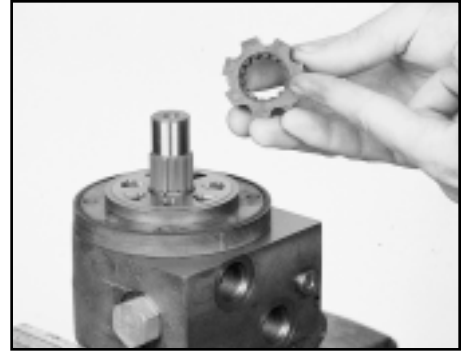

Figure A07
- Place the inner counterbored side down on the splines so that the semi-circular roll pockets are between the rotary valve port windows. SEE FIGURE A07.